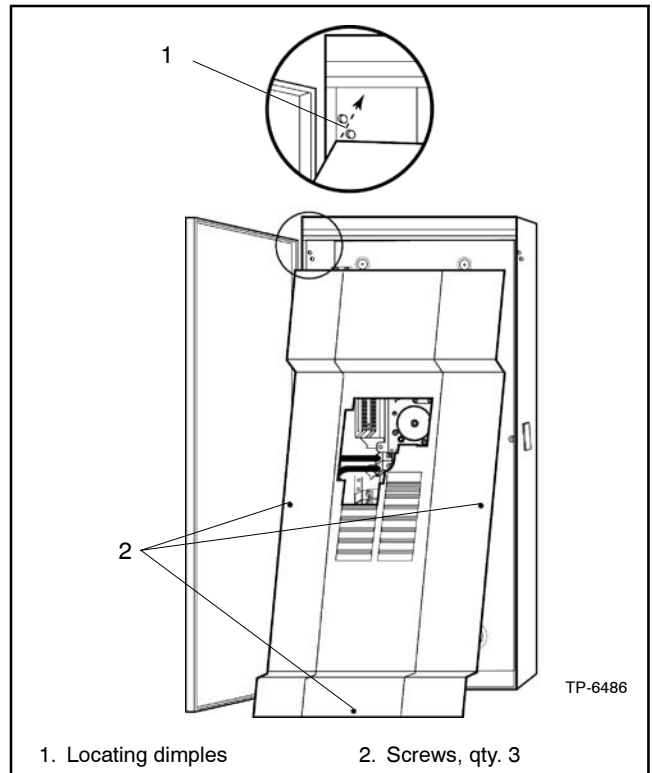

Figure 2-63 Front Cover, Type 3R Enclosure
- Slide the top left edge of the cover between the locating dimples on the back plane of the enclosure and into place. Refer to Figure 2-63.
Type 3R (outdoor) enclosures: Open the front enclosure door, loosen the three screws, and remove the front cover. See Figure 2-63 for screw location.